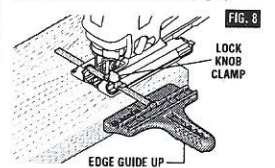

FIG. 8
1. Insert bar of guide through lock knob clamp, then through the slots provided in foot, from either side of foot with the edge guide facing UP (Fig. 8).
2. Hook lock knob clamp onto edge of footplate, adjust fence to desired width, and securely tighten lock knob clamp (Fig. 8).